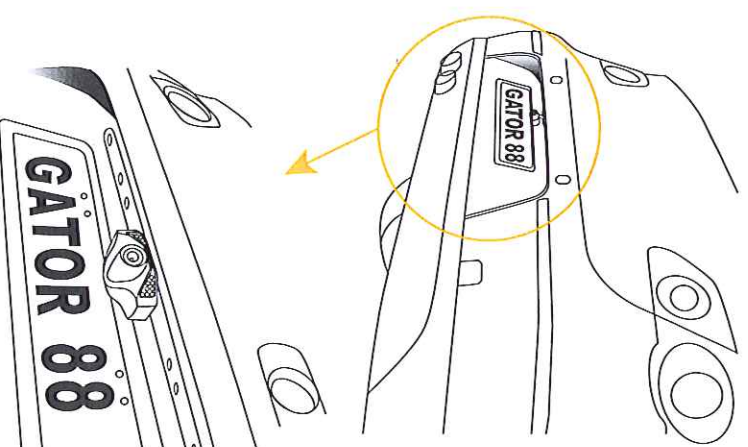

Fig. 4
UNDER EAVE / UNDER BUMPER (FIG.4)
1. Remove the backing tape from the camera bracket and adhere the camera and bracket on the surface above the licence plate as per Fig4.